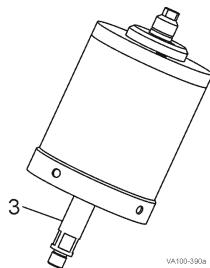

Figure 34: Pull Lower Stem
5. Pull the lower stem (Figure 34, item 3) to remove the caged spring assembly from the actuator cylinder.